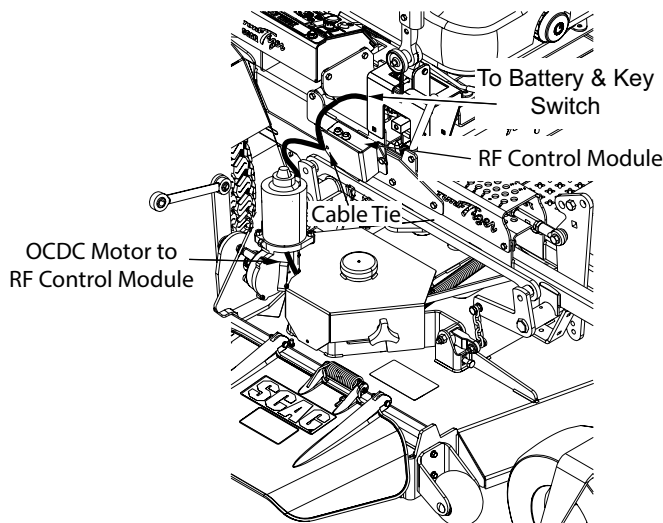

Figure 3-29. E-OCDC Wire Harness Installation
17. Install the EOCDK discharge chute to the cutter deck. Secure using two (2) 5/16-18 x 1 3/4" bolts and two (2) 5/16-18 elastic stop nuts. See Figure 3-29.
19. Secure the upper control link to the EOCDK discharge chute using one (1) 5/16-18 x 1 1/4" bolt and one (1) 5/16-18 elastic stop nut. See Figure 3-29.